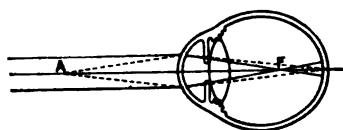

FIG. 389.—"Near sightedness, or myopia. Parallel rays come to a focus at  $F$ ; emerging rays focus at  $A$ , the far point.
**392. Defects of Vision.**—There are several defects of vision that may be corrected by spectacles or eyeglasses. One of these is "near-sightedness." It is due either to an eyeball that is elongated, or to an eye lens that is too convex, or to both conditions. This condition brings light from distant objects to a focus too soon (as shown in Fig. 389). Only light from near objects will focus upon the retina in such cases. With *normal* vision light from *distant* or *near* objects may be focused without unusual